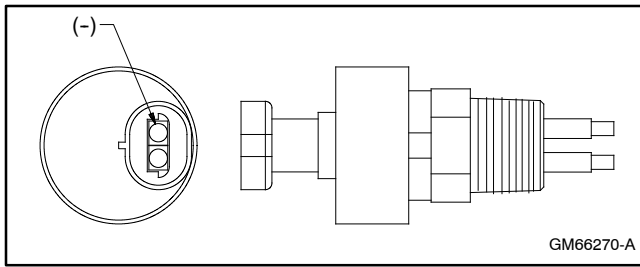

Figure 6-6 Coolant Level Sensor
3. Remove the CLS from the generator set. See Figure 6-6.